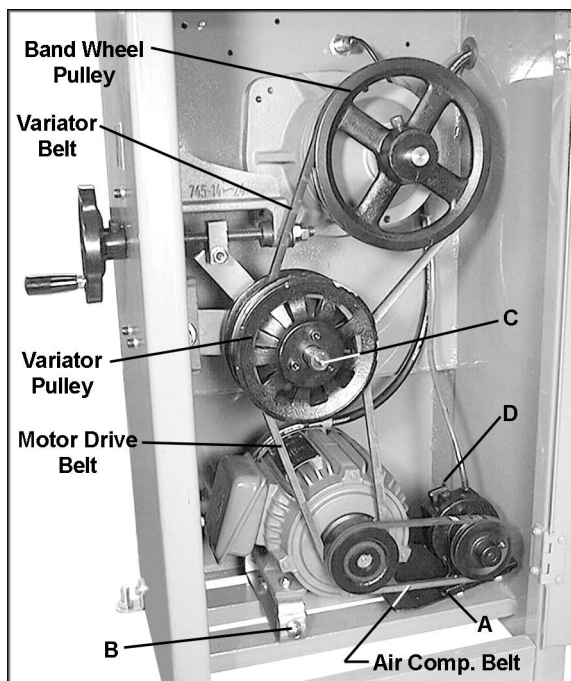

Figure 13
(See Figure 13)
2. To remove the **air compressor belt**, loosen the two hex cap screws (A, Figure 13) on the mounting plate and tilt the air compressor toward the motor. After installing a new belt, tilt the air compressor away from the motor to tension the belt, and re-tighten the two hex cap screws.
3. To remove the **motor drive belt**, first remove the air compressor belt (see above). Then loosen the two lock nuts (B, Figure 13) on the motor bracket. Lift up on the motor to slacken and remove the belt. After installing a new motor drive belt, push the motor back down and tighten the two lock nuts.
4. To remove the **variator belt**, first slide the motor drive belt off the variator pulley (see above). Then lift up on the variator pulley (Figure 13) to slacken the belt.